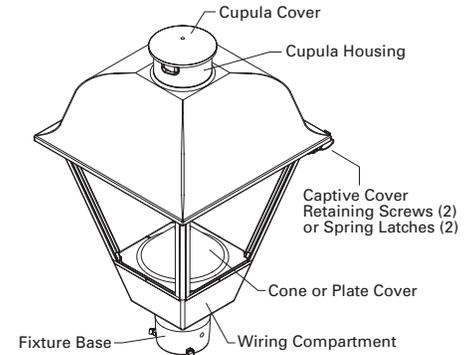

FIG. 1
1. Loosen the captive cover retaining screws or spring latches and open the hinged top cover of the fixture. (FIG. 1)
1. Lift off cupola roof. **(FIG. 1)**